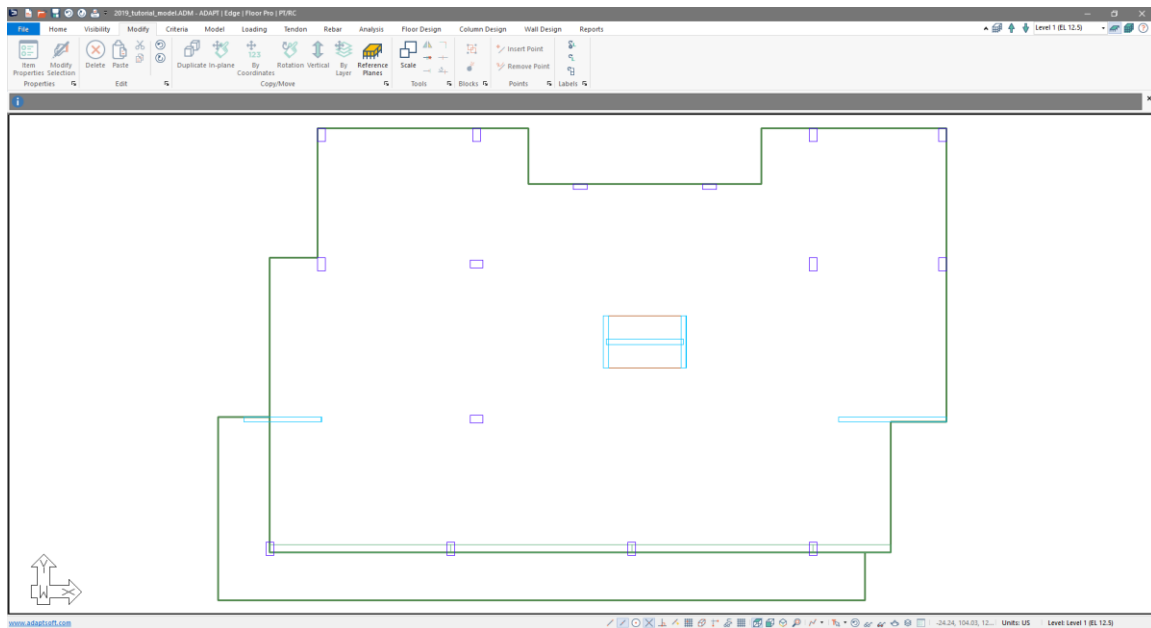

Figure 9-4
- Click on the *Top View* icon  in the **Camera and Viewports** Toolbar. This will bring you to the view of the model shown in **FIGURE 9-4**.